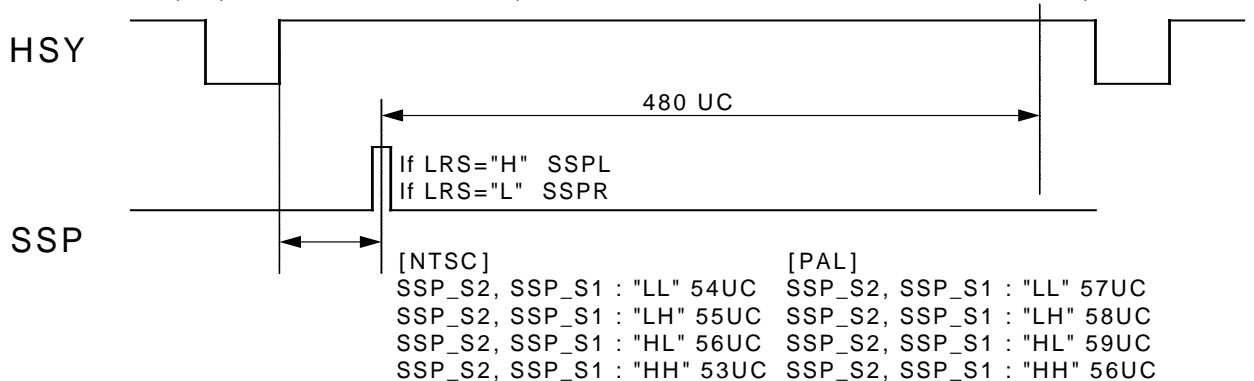

Fig. 5 Horizontal Display Position
(1) Horizontal Direction (Refer to Fig.5)
(2) Vertical Direction (Refer to page 17-1~17-3)
(2) Vertical Direction (Refer to page 18-1~18-3)